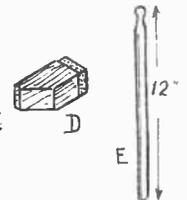

Fig. 4—Tip and cue
At point (A) on the board, a tempered steel pin can be driven in, failing the pin, a block of wood,  $\frac{3}{8}$  in. wide and 1  $\frac{1}{2}$  ins. long, shaped as at (D) in Fig. 4, can be substituted. This is glued in position, and has a piece of thickish rubber glued to its upper end to act as a spring, pitching the ball forward for its run down the board.
For the game 12 steel balls will be needed,  $\frac{3}{8}$  in. diameter, and a cue. The latter is sketched at (E) in Fig. 4, and can be easily shaped up from a length of  $\frac{1}{2}$  in. round wooden rod.